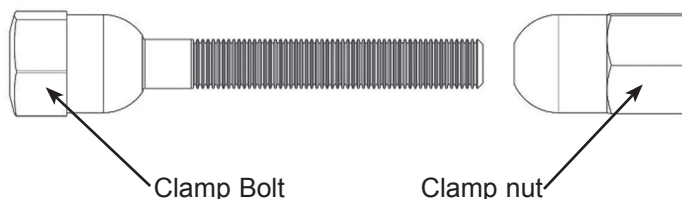

Figure 6
3. Insert clamp bolt through the clamp ends and thread the clamp nut onto clamp bolt with rounded end of the nut (Fig 6) towards the ends of the clamp.